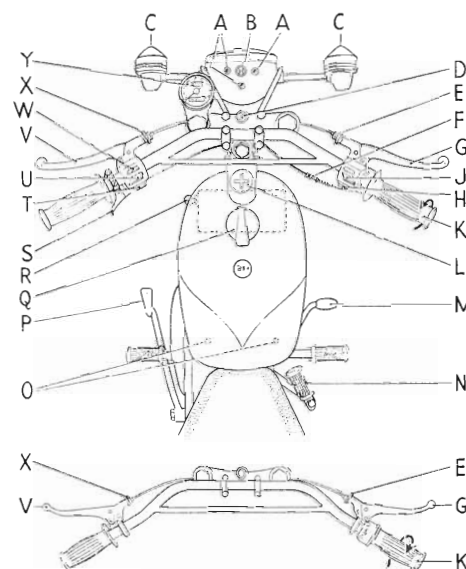

FIGURE 1. The controls.
EXHAUST VALVE LIFTER (500 cm³ engine, except Moto-cross model):—This is the small lever (S) Fig. 1, mounted on the left handlebar and it must be depressed in order to raise the exhaust valve and therefore relieve engine compression.